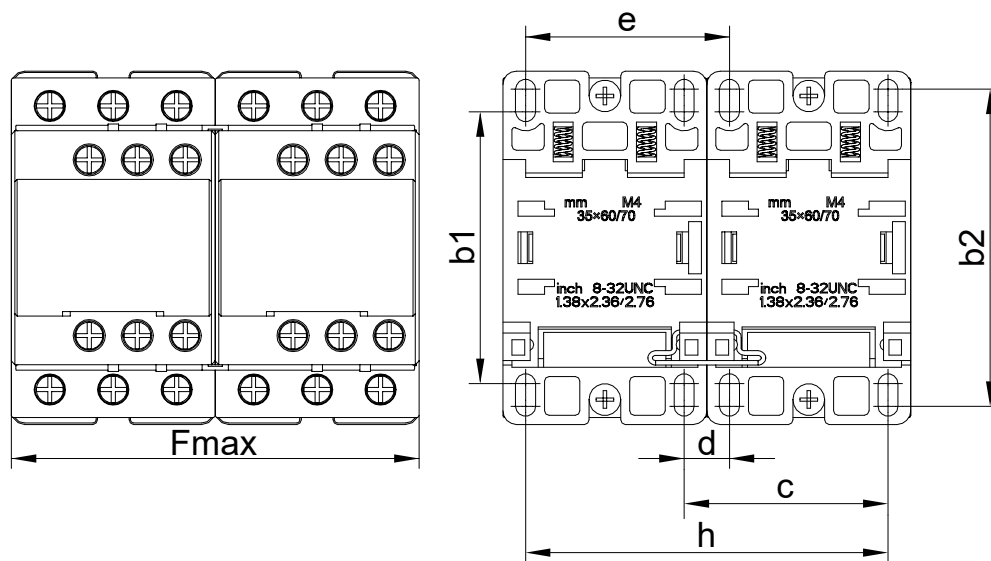
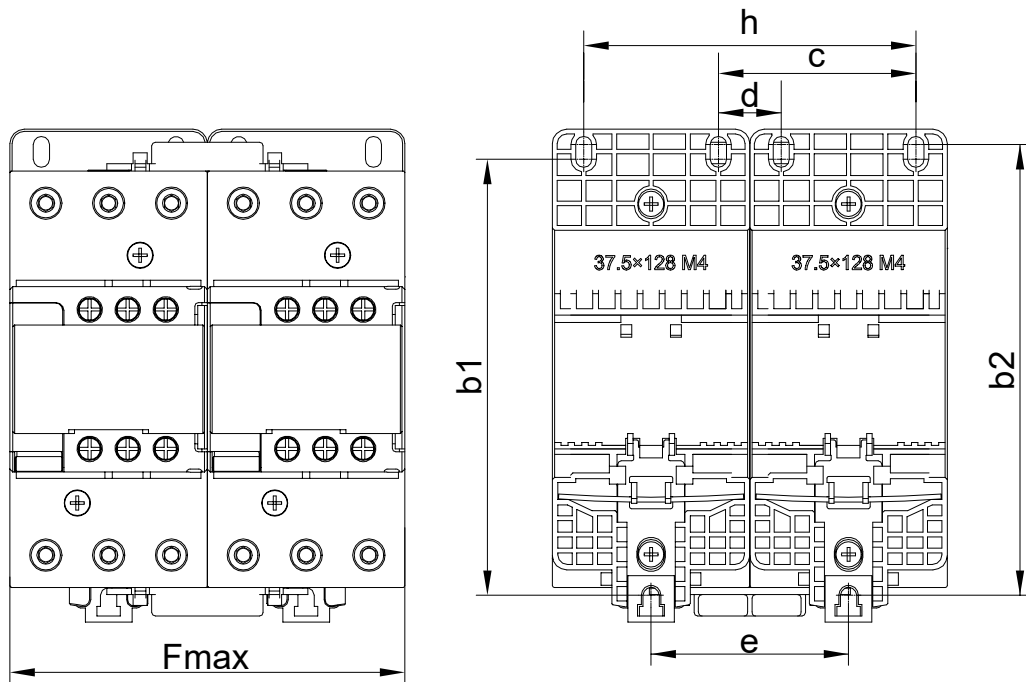
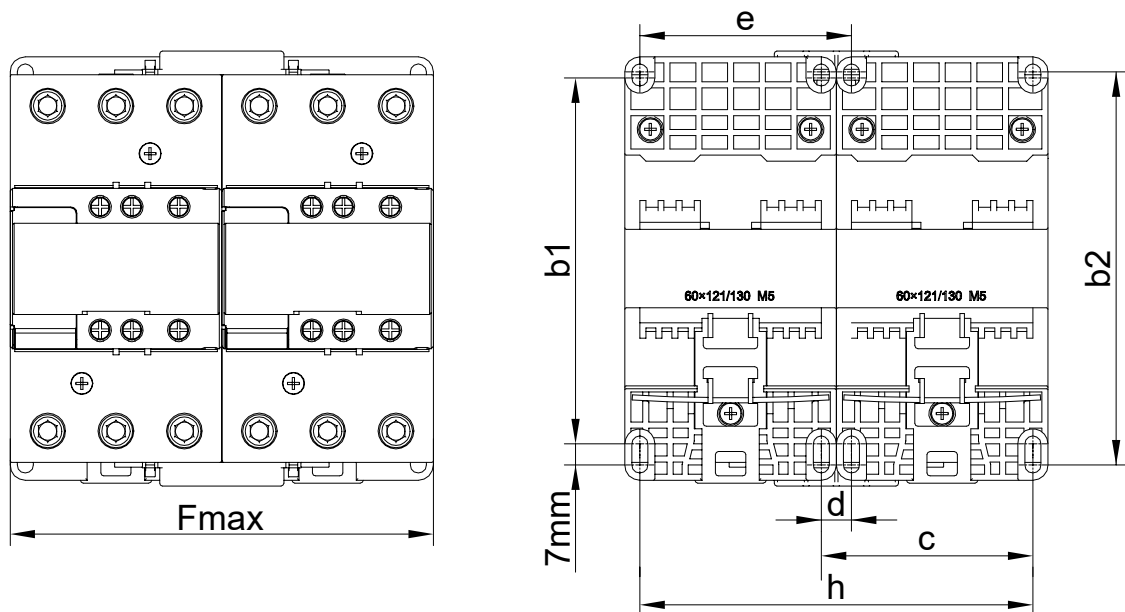

Fig. 10 HDCX-09~38 DC reversible contactor overall installation dimension
Fig. 11 HDCX-40~65 DC reversible contactor overall installation dimension
Fig. 12 HDCX-80~95 DC reversible contactor overall installation dimension
- The reversible contactor overall installation dimensions are shown in Figure 10, Figure 11, Figure 12 and Table 4.